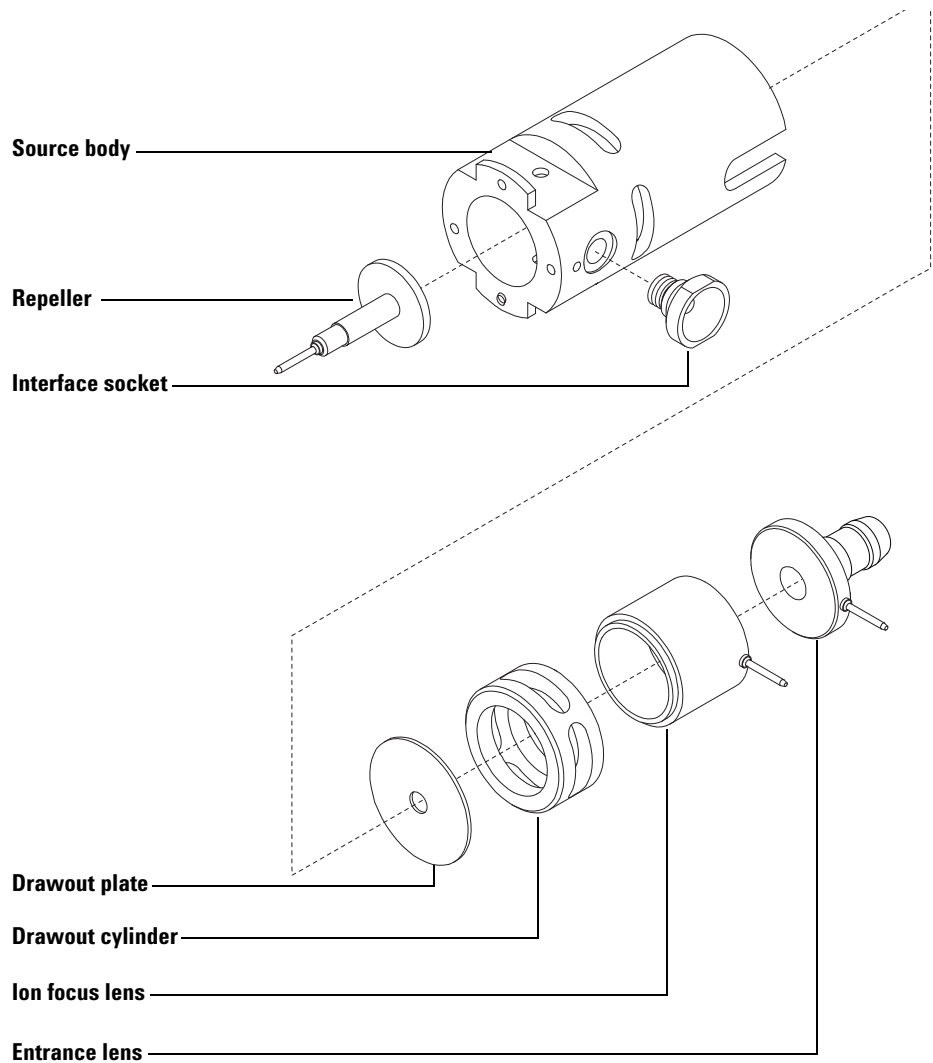

Figure 13 Source parts to be cleaned
- 2 Collect the following parts to be cleaned: (Figure 13)